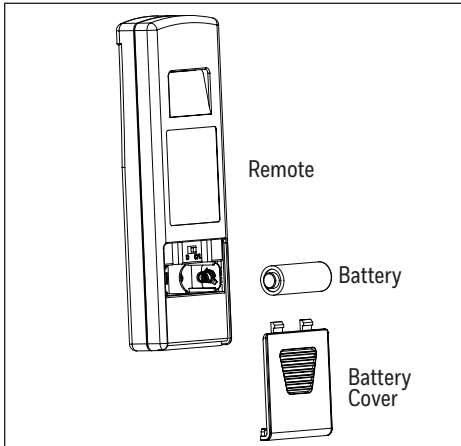

Figure 5.9
9. Use a flat-head screwdriver, if necessary, to remove the battery cover from the back of the remote found in remote pack. Insert the battery into the remote; ensure polarity of battery matches the polarity indicated in the battery compartment -- positive (+) to positive (+) and negative (-) to negative (-). Replace the battery cover and press the fan on/off button on the remote to ensure the LED indicator illuminates and the remote turns on the fan (Figure 5.9).